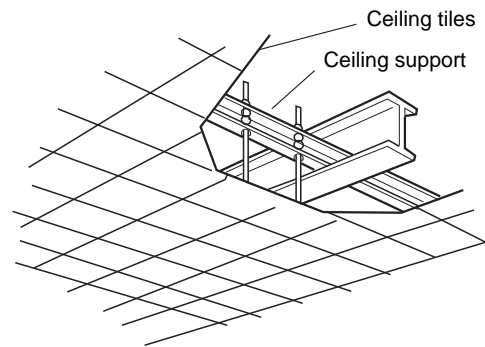

Fig. 3-84
- Use existing ceiling supports or construct a suitable support as shown in Fig. 3-84.